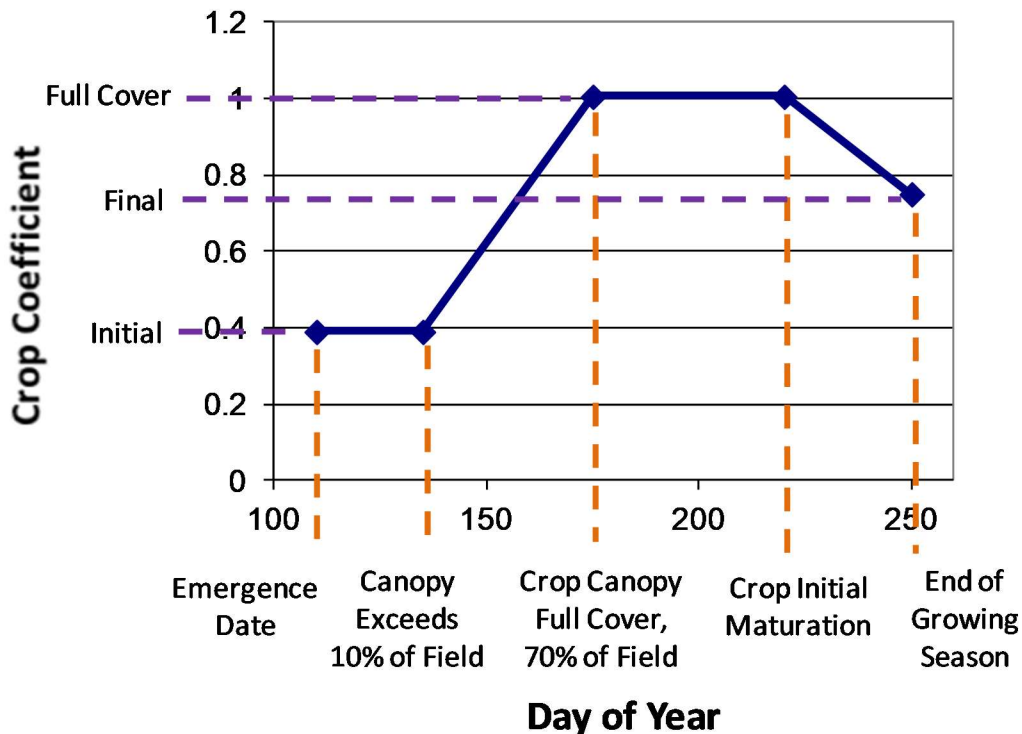

Figure 7. Parameters that define the crop coefficient curve.
where  $ET_r$  is the estimated evapotranspiration of a reference surface of full grown alfalfa that is calculated from measured weather data. The weather data used to calculate  $ET_r$  include solar radiation, air temperatures, humidity, and wind speed data. Irrigation Scheduler Mobile uses alfalfa reference  $ET_r$  as calculated by the ASCE standardized Penman-Monteith Equation (ASCE – EWRI, 2005).  $K_c$  is a crop coefficient specific to a crop and that crop's growth stage over the season. Crop coefficients Irrigation Scheduler Mobile are mean crop coefficients and defined as in the FAO-56 publication (Allen et al., 1998; Figure 7). Default dates and crop coefficient values for different crops are given in Appendix B.
**Reset/Correct Soil Water Availability:** Check this box to overwrite the calculated percent of available soil water with an entered number (Figure 7). You might want to do this to correct the model to make it better match observations or a soil moisture measurement. The model will use your entered value as the new value and will calculate the estimated soil water content from that point on. Unchecking this box will make model return to the calculated value.